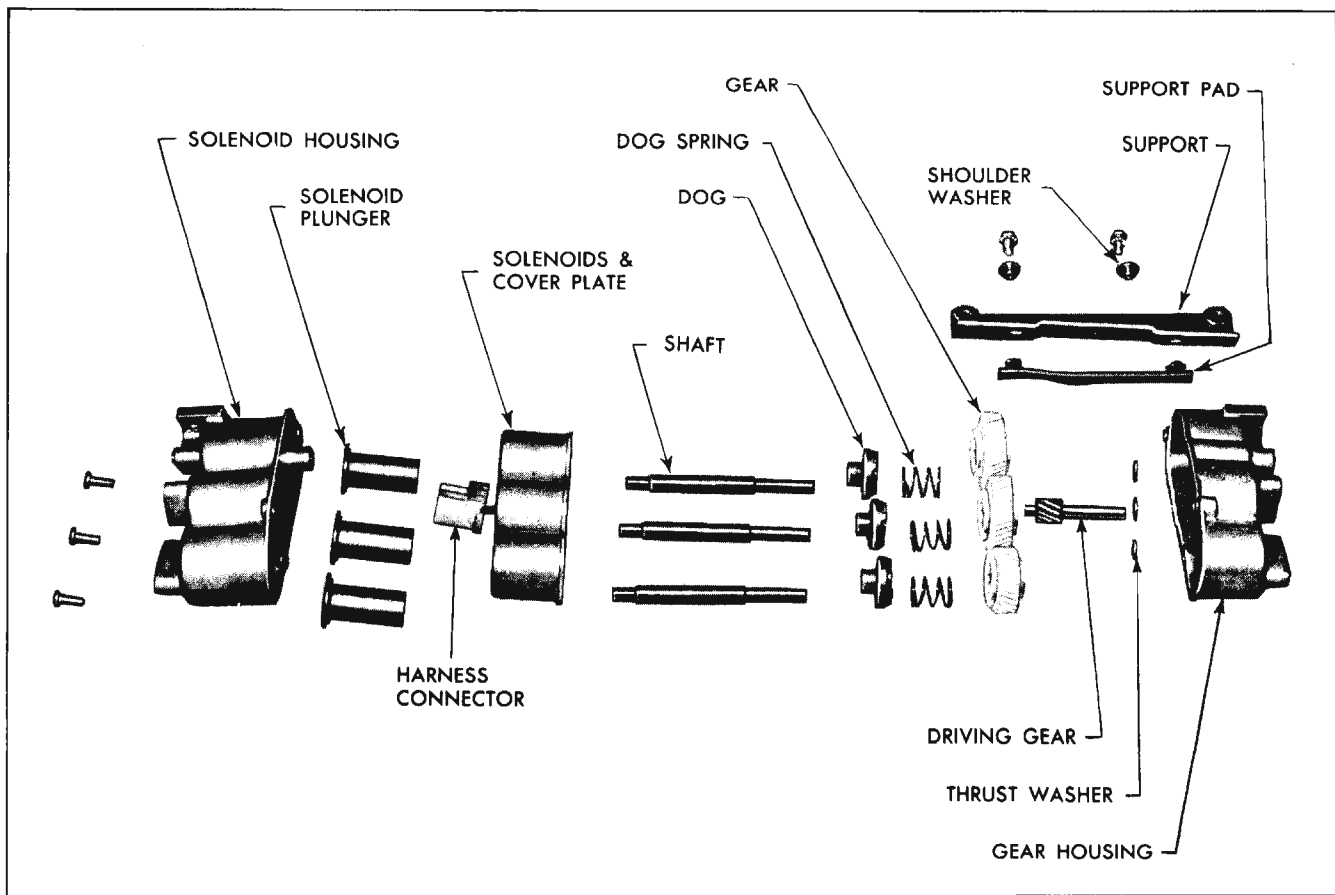

Fig. 16-86 Six-Way Seat Transmission Assembly
3. Remove screws securing gear housing to the solenoid housing; then, carefully separate housings and remove component parts of transmission assembly. (Fig. 16-86)